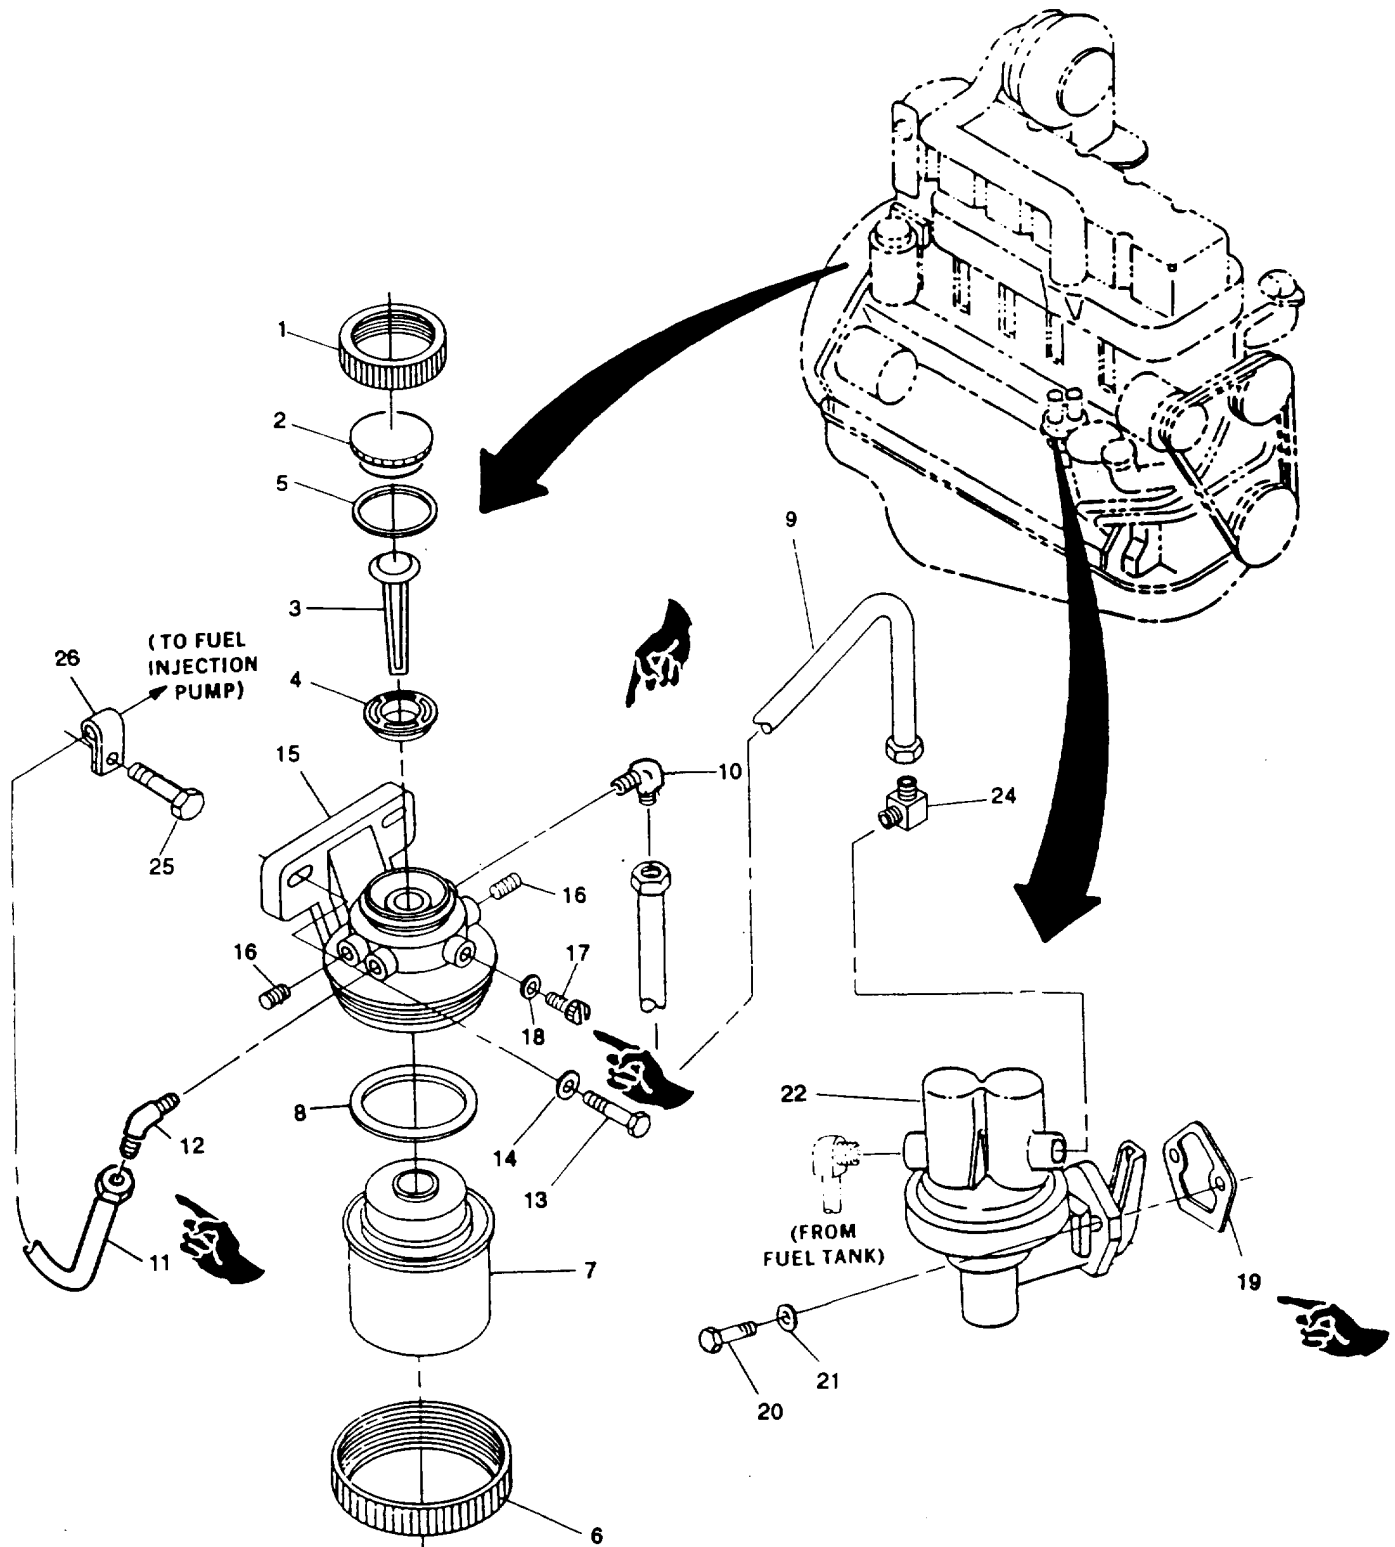
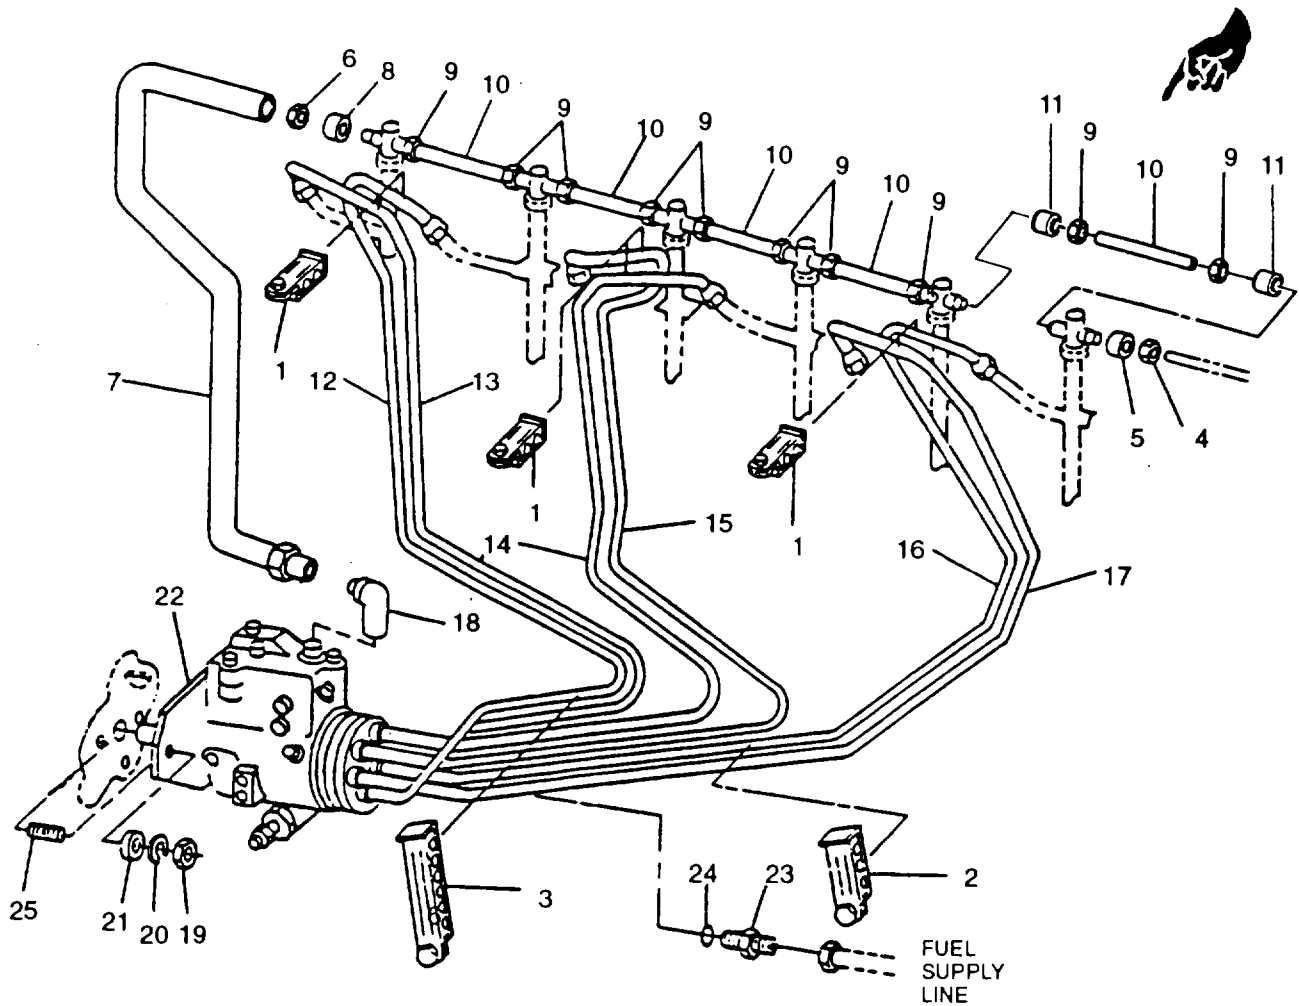

FIGURE 3-58. Fuel Filter and Fuel Supply Pump
FIGURE 3-59. Fuel Lines and Injection Pump Installation
- a. Loosen air bleed screw (17, FIGURE 3-58) on front of fuel filter.
- b. Operate primer lever of fuel supply pump (22) until fuel flow is free from air bubbles. Tighten bleed screw securely, continue operating hand primer until pumping action is not felt. Push hand primer inward (toward block) as far as it will go.
- a. Remove cap retaining ring (1, FIGURE 3-58), header (2), volume plug (3), and prefilter (4). Inspect seal (5) for damage and replace as necessary. Install new prefilter (4), seal (5), volume plug (3), header (2), and cap retaining ring (1).
- b. Loosen and remove retaining ring (6) and filter element (7) from filter head. Discard packing (8). Install new filter element (7) with new packing (8) and secure with retaining ring (6).
- a. Disconnect fuel line (9, FIGURE 3-58) from elbow (10) at filter head (15). Cap openings.
- b. Disconnect fuel line (11) from elbow (12) in outlet of filter head. Cap openings.
- c. Remove two capscrews (13) and washers (14) securing filter head (15) to engine block; remove filter assembly.
- b. Remove two elbows (10 and 12, FIGURE 3-58) from filter head (15).
- c. Remove bleed screw (17) and preformed packing (18). Discard preformed packing (18).
- d. Install new preformed packing (18) and bleed screw (17).
- a. Position filter head (15, FIGURE 3-58) on engine mounting and secure with two capscrews (13) and washers (14).
- b. Remove caps and connect fuel line (11) to elbow (12) in outlet of filter head.
- c. Remove caps and connect fuel line (9) to elbow (10) in inlet of filter head.
- a. Disconnect fuel line (9, FIGURE 3-58) from elbow in fuel supply pump (22) outlet. Cap openings.
- c. Remove two capscrews (20) and washers (21) securing fuel supply pump (22) to engine block. Remove pump and gasket (19); discard gasket (19).
- e. Remove elbow (24) from fuel supply pump outlet.
- a. Install elbow (24, FIGURE 3-58) in fuel supply pump outlet.
- b. Position new gasket (19) and fuel supply pump (22) on engine block and secure with two capscrews (20) and washers (21).
- d. Remove caps and connect fuel line (9) to elbow (24) in fuel supply pump outlet.
- a. If necessary, remove fuel line (11, FIGURE 3-58) by disconnecting it at fuel injection pump using two wrenches. Remove capscrew (25) securing clamp (26) and remove fuel line.
- b. If necessary, remove fuel line (9) by disconnecting it at elbows (10 and 24).
- c. Remove three loop clamps (1, FIGURE 3-59).
- e. At cylinder No. 6 fuel injector, loosen coupling nut (4) and disconnect return line to fuel tank. Remove coupling nut (4) and bushing (5). Discard bushing (5).
- f. At cylinder No. 1 fuel injection, loosen coupling nuts (6) and disconnect return tube (7). Remove nuts (6) and bushing (8). Discard bushing (8). Disconnect other end of tube (7) from fitting (18).
- g. Loosen coupling nuts (9) securing five tubes (10) to injectors. Remove tubes (10), ten coupling nuts (9), and bushings (11). Discard bushings (11).
- a. Remove all caps and connect six fuel injection lines (12, 13, 14, 15, 16, and 17, FIGURE 3-59) to fuel injectors and fuel injection pump as tagged during removal.
- b. Install ten new bushings (11) and coupling nuts (9) on five tubes (10). Install tubes (10) to fuel injectors and secure with coupling nuts (9). Do not overtighten coupling nuts.
- c. Connect tube (7) to fitting (18). Connect other end of tube (7) to No. 1 injector using new bushing (8) and coupling nuts (6). Do not overtighten coupling nuts.
- d. Connect fuel tank return line to No. 6 injector using new bushing (5) and coupling nut (4). Do not overtighten coupling nut.
- e. Disconnect fuel supply line (FIGURE 3-59) and cap off both fuel supply line and injection pump inlet.